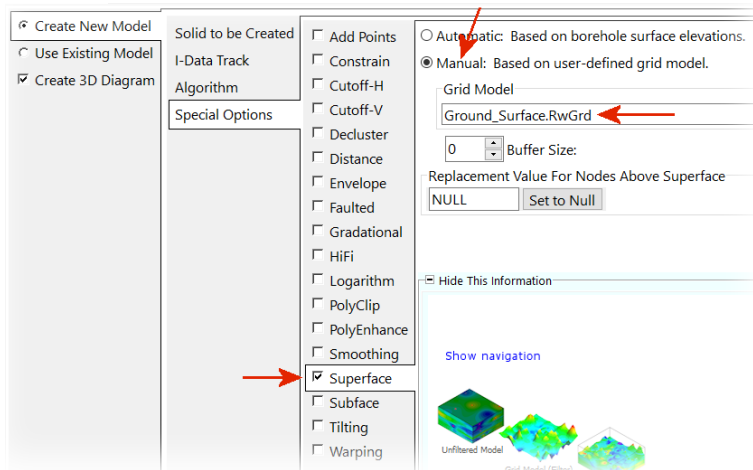

Figure 71
- Click on the *Special Options* tab and activate the *Superface* filter (Figure 71). Select the *Manual* option and enter the name for the *Grid Model* that was created in Exercise 3.2 ("Ground_Surface.RwGrd"). This will set all of the solid model nodes about the ground surface to a null (-1.0e27) value such that no portion of the interpolated block model will extend above the ground surface.